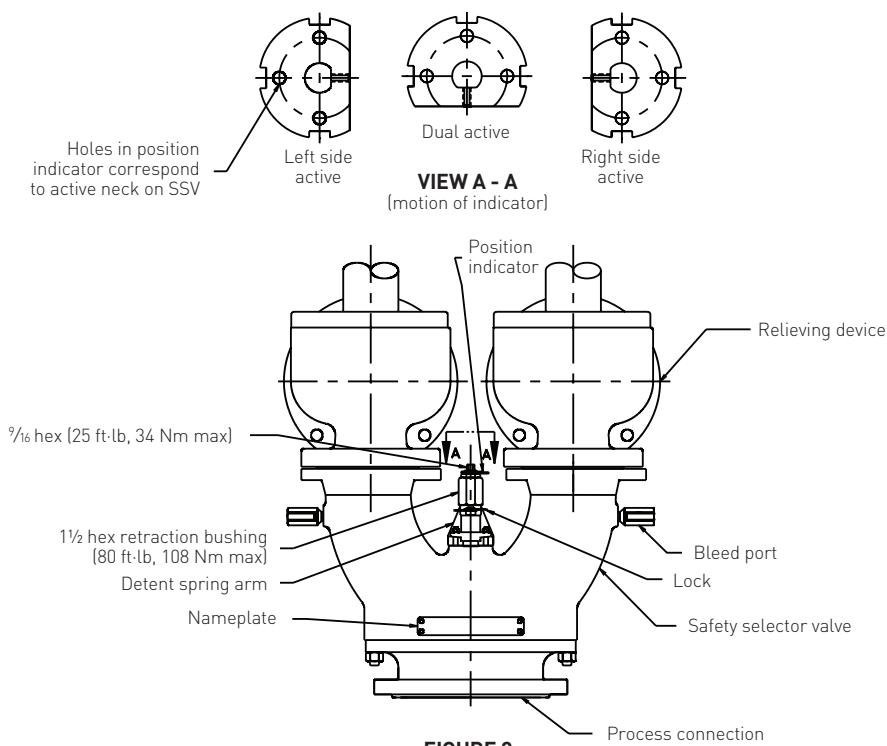

FIGURE 3
Refer to Figure 3 and follow these steps:
4. Pull detent spring to clear indicator groove and rotate ¾" hex to desired position. Max torque 25 ft·lb. Refer to view "A-A" of Figure 3.